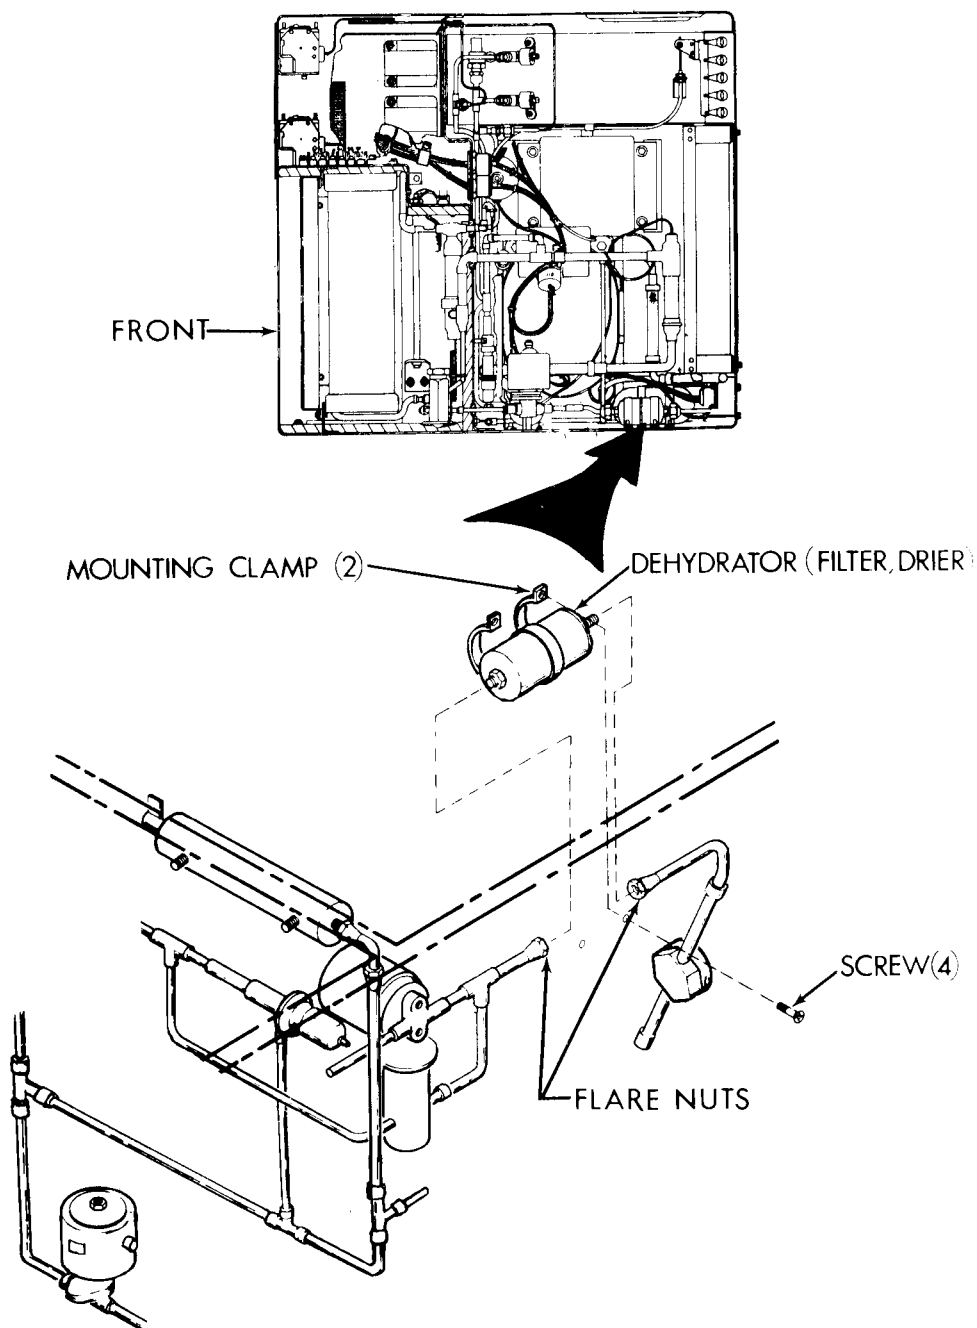

Figure 5-19. Dehydrator (Filter/Drier)
a. Removal. (See fig. 5-19.)
- (1) Disconnect power at power source.
- (2) Remove top rear cover (para 4-11).
- (3) Discharge and purge refrigeration system per paragraphs 5-11 and 5-12.
- (4) Remove screws and mounting clamps.
- (5) Disconnect two flare nuts and remove dehydrator from unit.